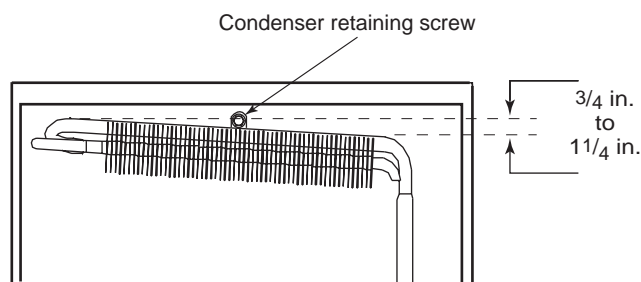

Figure 29. Condenser Angle and Retaining Screw.
19. Remove the condenser retaining screw. See Figure 29, page 43.
4. Fasten the condenser section to the cabinet. Do not overtighten the condenser retaining screw Figure 29, page 43.